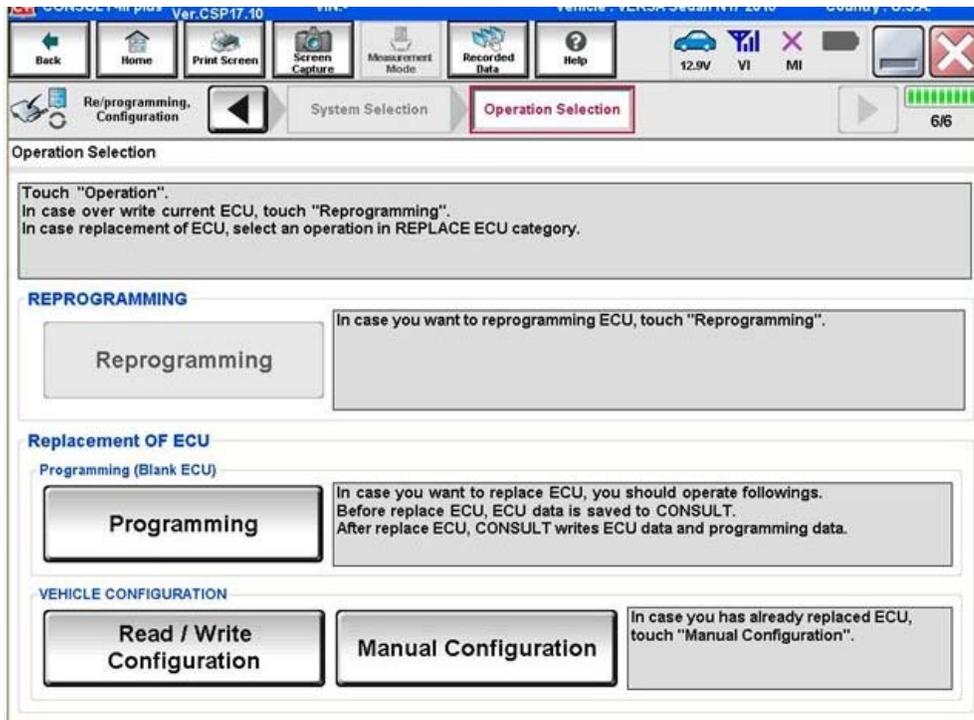

Figure 13
24. After **Confirm** is selected in step 23, the screen in Figure 13 will display.
- Leave C-III plus turned on (it should continue to display the screen in Figure 13 while replacing the ECM).